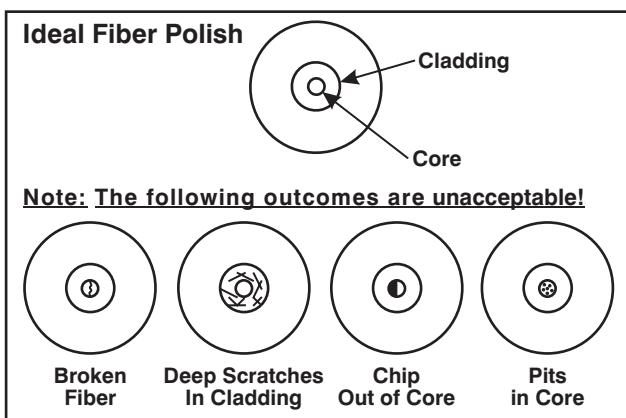

FIGURE 3 FIBER POLISH FINISH
- 3.04 Insert ferrule straight up into 100X or 200X inspection microscope and inspect fiber core. The core & cladding should be free of scratches and chips (See Figure 3).